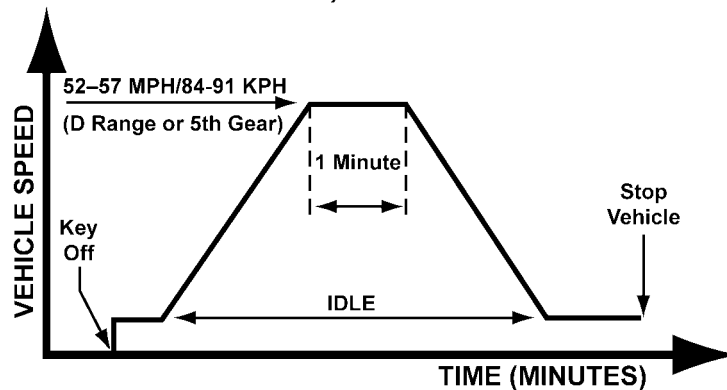

Figure MA000-9
4. Drive vehicle as indicated by the graph (Figure MA000-9).